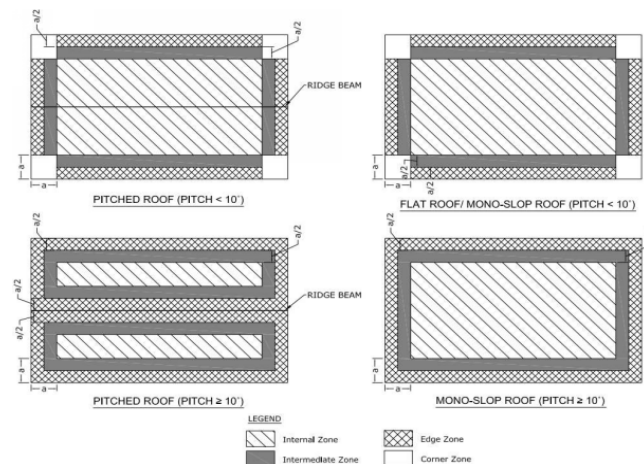

Figure 2 - Roof Zones Definition
*Refer to Note 7- Figure 2 for roof zone definition.
Note 7 Refer Figure 2 for definition of roof zones.
In Figure 2, the value of dimension "a" is the minimum of $0.2b$, $0.2d$ and h . (b & d are building dimensions and h is its height)